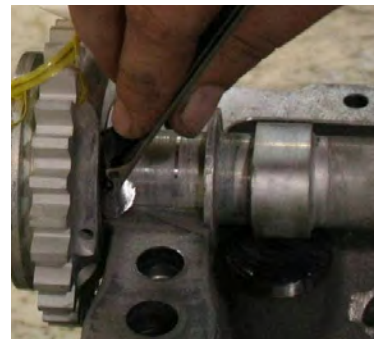

Figure 63
- (3) Complete a check of the end play clearance of the camshaft using a feeler gage (Figure 63).
- (4) Remove the camshaft from the left crankcase half and install it in the right crankcase half and complete a check of the camshaft end play clearance.